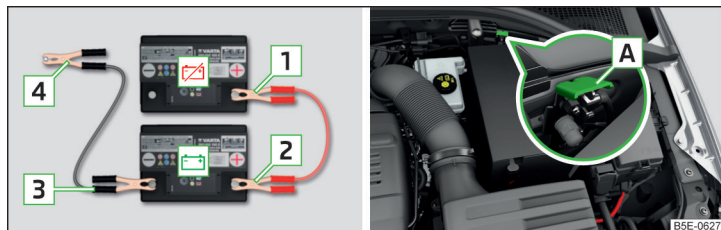

Fig. 327 Jump starting: - Discharged battery, - Power-supplying battery/earth point of the engine for the START-STOP system
- › For vehicles **with** the START-STOP system, secure the clamp **4** to the ground point of the engine **A** » Fig. 327.